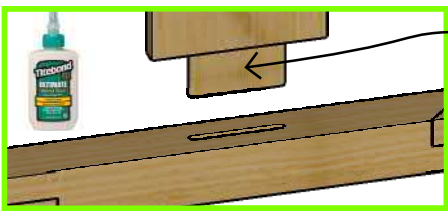
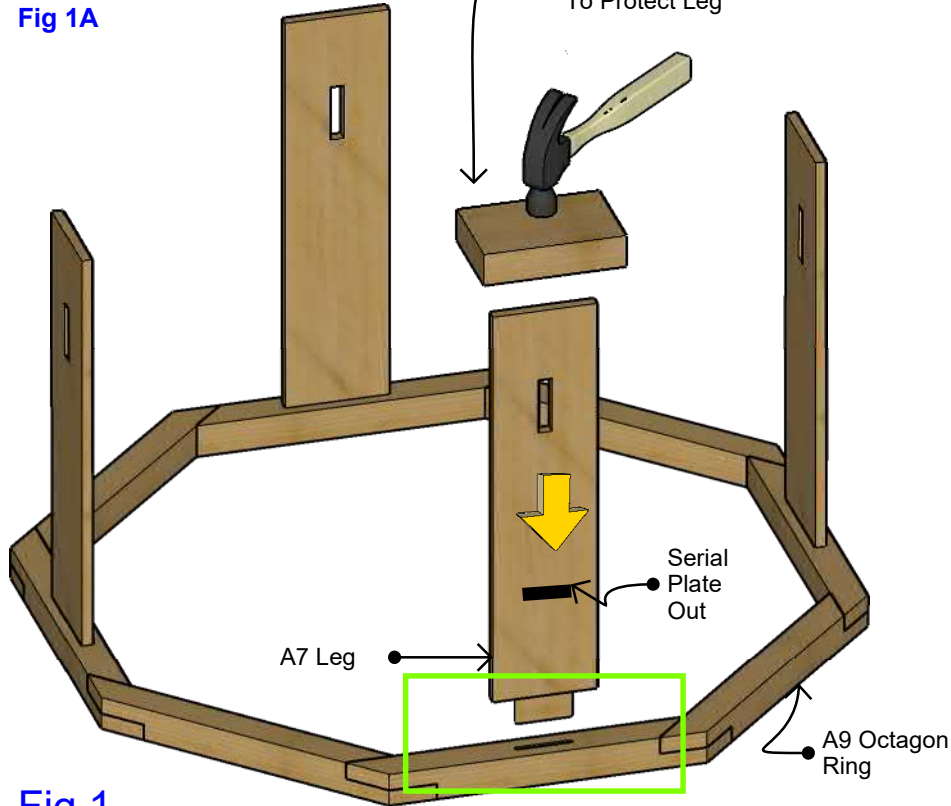

Fig 1A
Fig 1
**Fig 1 - Attach Legs To Octagon Ring:** Place **A9 Octagon Ring** upside down on a hard flat surface. Smear a layer of provided wood glue onto **A7 leg** as indicated in **Fig 1A** and using your hammer and provided block of wood and gently tap in all 4 **A7 Legs**. Wipe up any excess glue with a damp rag.